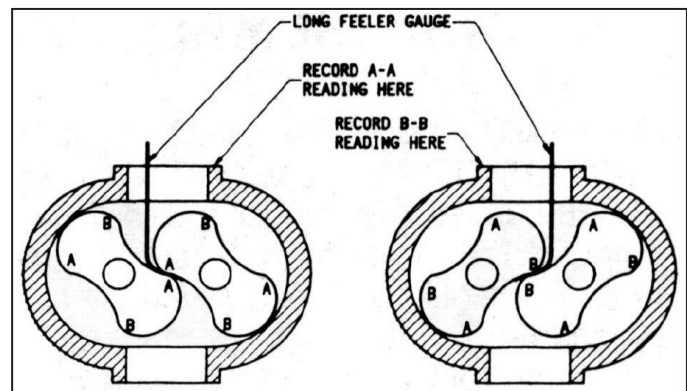

Figure 11 - Rotor Interlobe Clearance
- EXAMPLE: Referring to Figure 11, check the clearance at AA (right hand reading) and BB (left hand reading). If AA reading is .013" (.32 mm) and BB reading is .007" (.18 mm), by removing .006" (.15 mm) shims, the readings will change one half of the amount removed or .003" (.08 mm). AA should then read .010" (.25 mm) and BB should read .010" (.25 mm). The final readings should be within .002" (.05 mm) of each other.